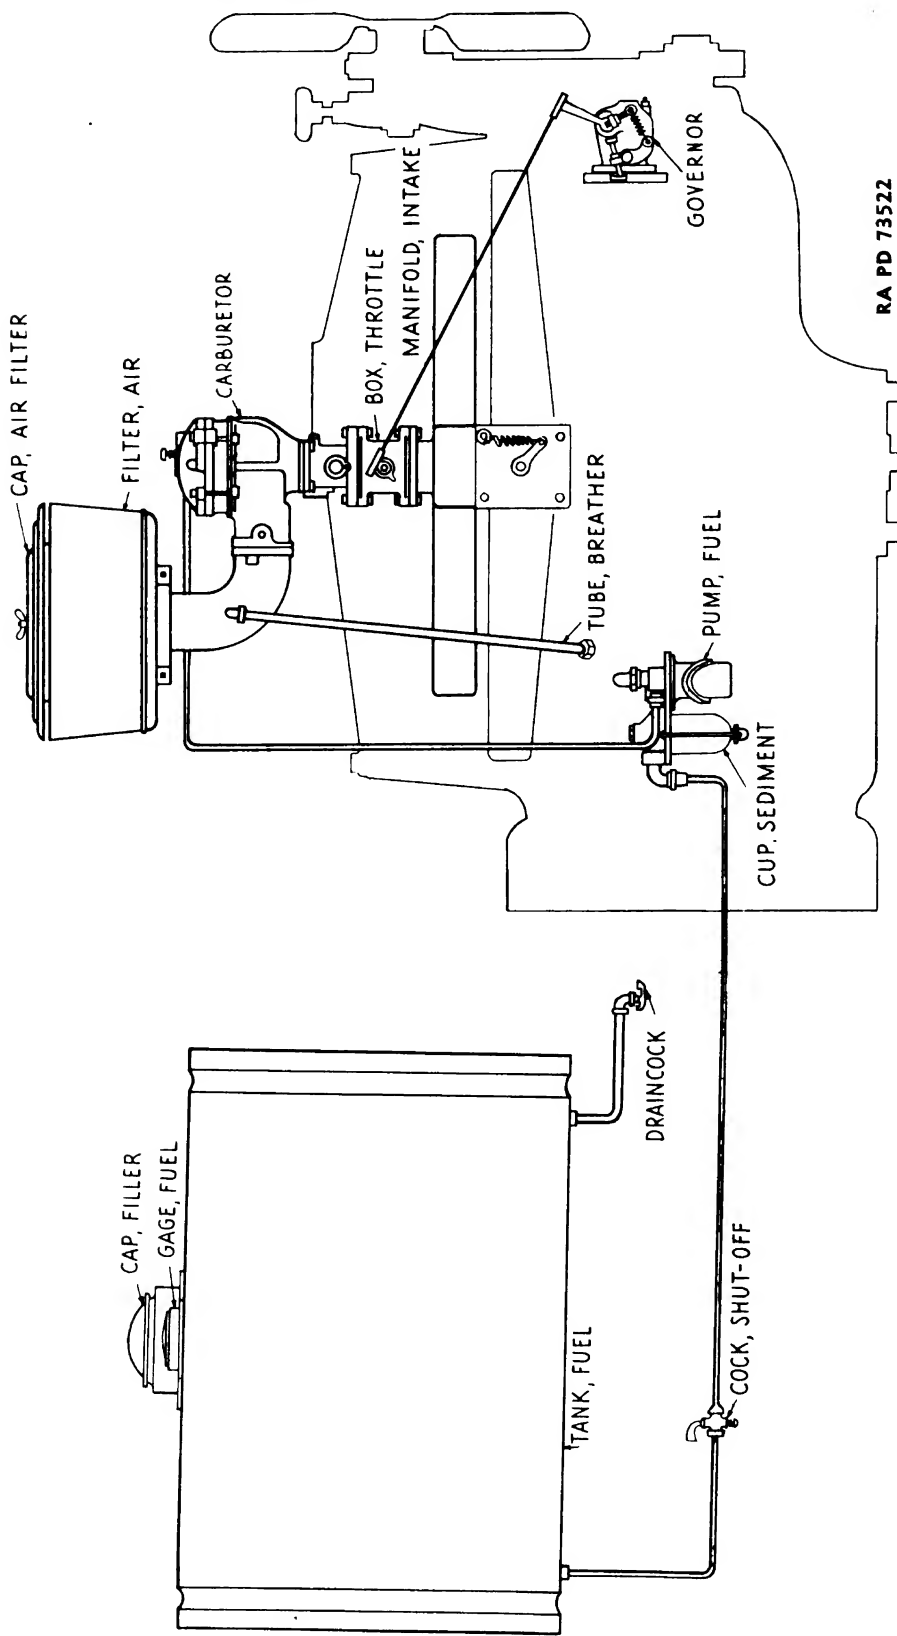

Figure 80 — Fuel System
34. FUEL SYSTEM DESCRIPTION (fig. 80).